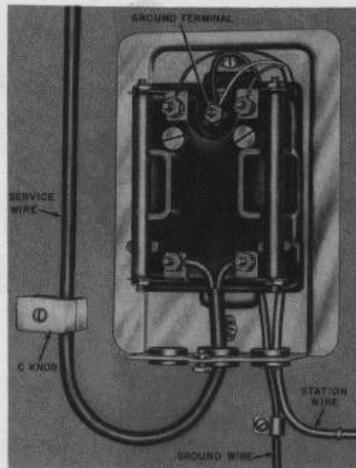
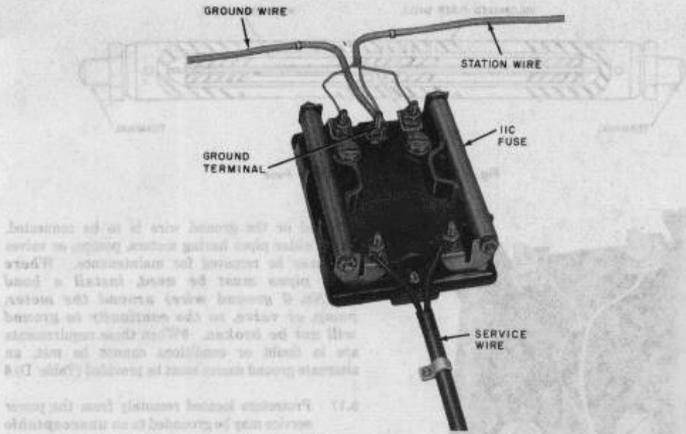
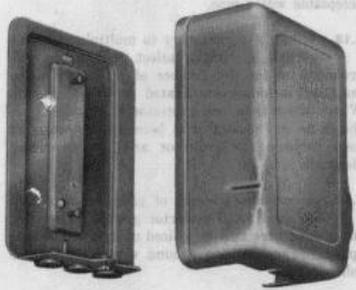

Fig. 39—1293C (MD) Protector, Cover Removed
Fig. 40—106C Protector
Fig. 41—93C (MD) Protector Mounting
5.01 The 1293C Φ (MD) Φ protector (Fig. 39) is used for outdoor installations and the 106C protector (Fig. 40) is used for indoor installations. These protectors are the same except the 1293C Φ (MD) Φ protector is comprised of a 106C protector enclosed in a 93C Φ (MD) Φ protector mounting (Fig. 41).